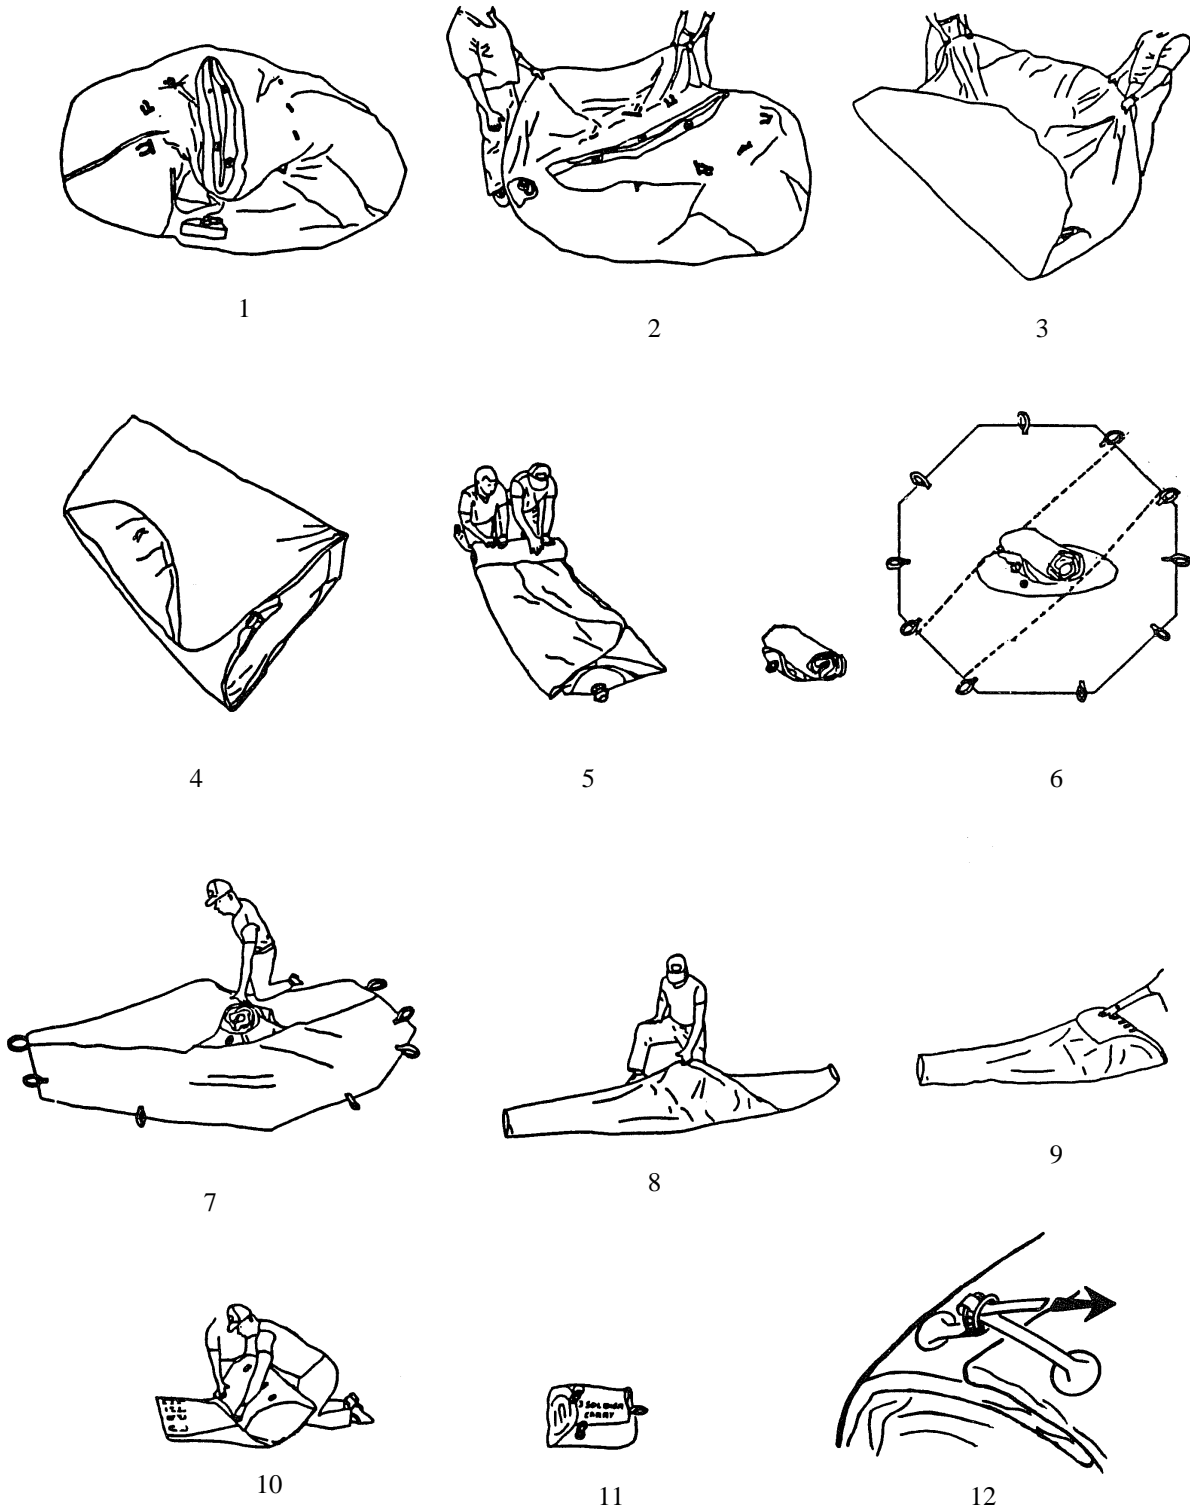

Figure 1. Packing Collapsible Fabric Tank.
1. Lay out the tank flat on the ground with the tank closure up. See Figure 1.